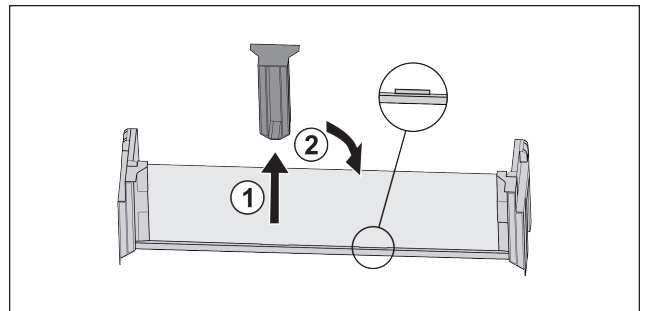

Fig. 96
- Pull off the middle holder Fig. 96 (1).
- Insert the middle holder in the second position Fig. 96 (2).